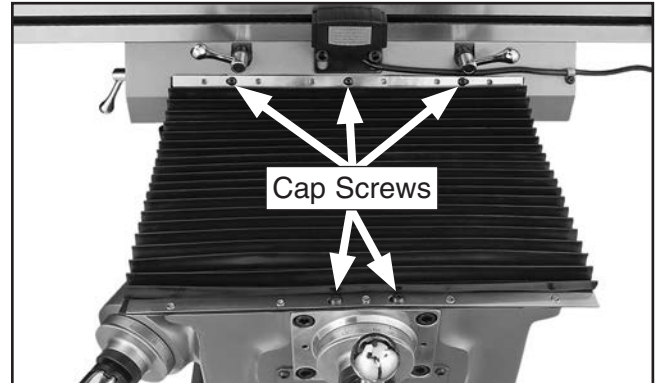

Figure 12. Front way cover installed.
4. Using the five cap screws pre-threaded into the holes, install the front way cover as shown in **Figure 12**.